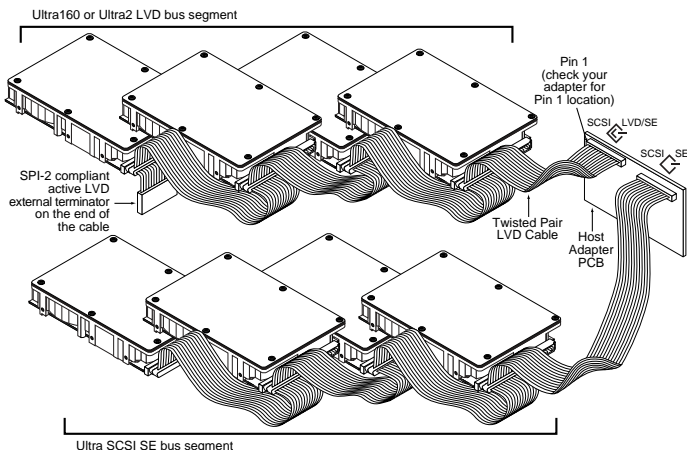

Figure 4. Cable connections and external termination
Note. Some LVD host adapters provide an LVD connector *and* an SE connector on the same host adapter to allow you to run SE and LVD drives concurrently at their maximum capabilities. Check your SCSI host adapter documentation. See Figure 4.
LW models do not have internal terminators or any other way of adding internal termination on the drive. You must provide external termination when termination is required. This is normally done by adding an inline terminator on the end of the cable. See Figure 4 for an illustration showing a system configuration that uses an external terminator.
- Connect the DC power cable to the drive. See Figure 4.